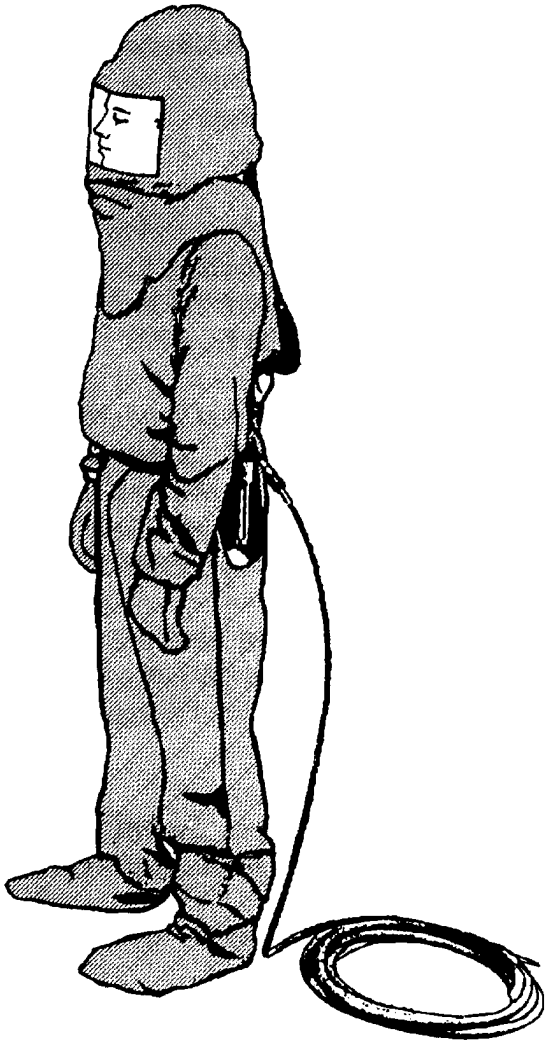

Figure 1-32.—Disposable spray-painting hood.
b. Sandblasting hoods are usually made of leather or heavy material to resist deterioration from the abrasive sand. Spray painting hoods may be made of disposable, paper-like material with replaceable, peel-off window covers. See figure 1-32.